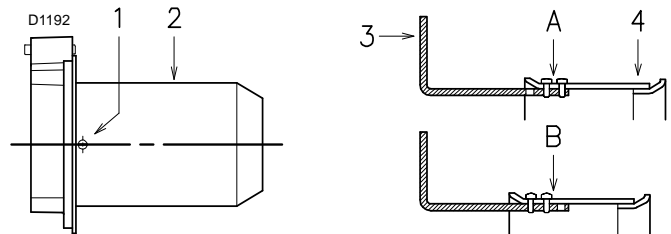

Fig. 12
- Loosen the screws 1)(Fig. 12) and disassemble the blast tube 2).
- Move the rod 3)(Fig. 12) from position A to position B, thereby drawing back the shutter 4).
- Reassemble the blast tube 2)(Fig. 12) and the screws 1).